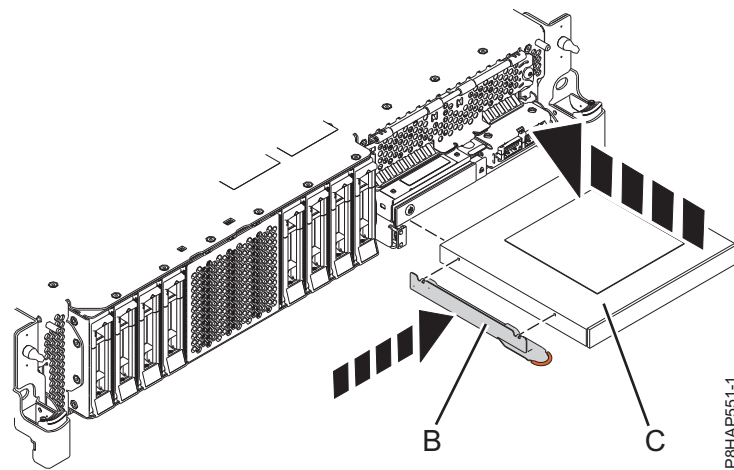
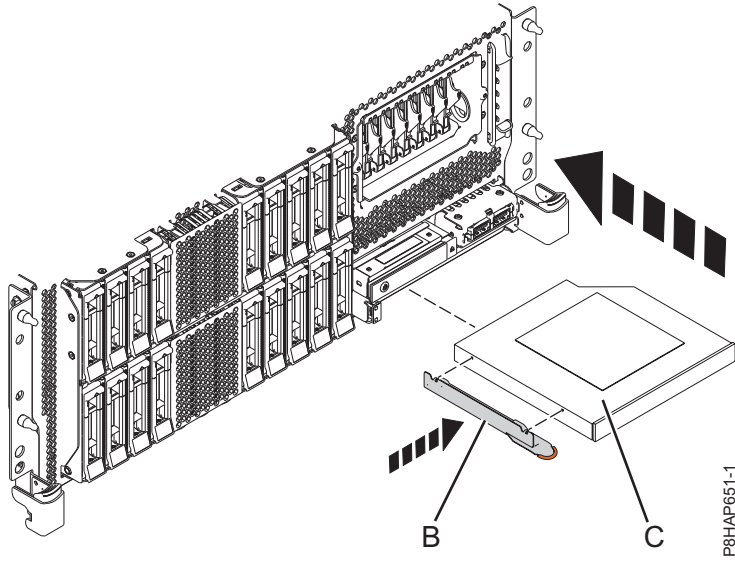
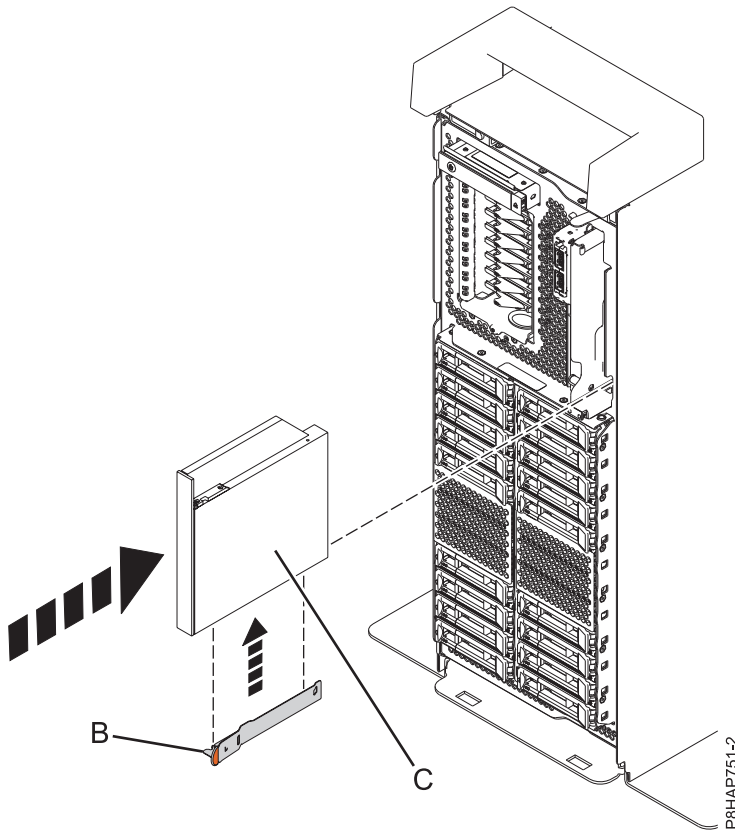

Figure 6. Installing a Slimline media device in an 8284-21A or 8284-22A system
Figure 7. Installing a Slimline media device in a rack-mounted 8286-41A or 8286-42A system
Figure 8. Installing a Slimline media device in a stand-alone system
5. Attach the retaining-bracket (**B**) to the new Slimline media device, as shown in Figure 6 for an 8284-21A or 8284-22A system, Figure 7 on page 10 for an 8286-41A or 8286-42A system, or Figure 8 on page 10 for a stand-alone 8286-41A system.
- For an 8284-21A or 8284-22A system, see Figure 6, for a rack-mounted 8286-41A or 8286-42A system, see Figure 7 on page 10, or for a stand-alone 8286-41A system, see Figure 8 on page 10.